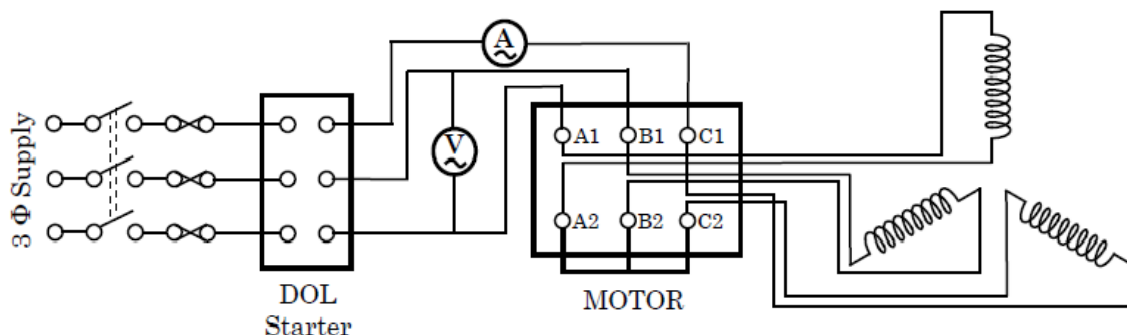

Figure 3: Connection Diagram for DOL starter.
- 1) Make the connection as shown in Figure 3.